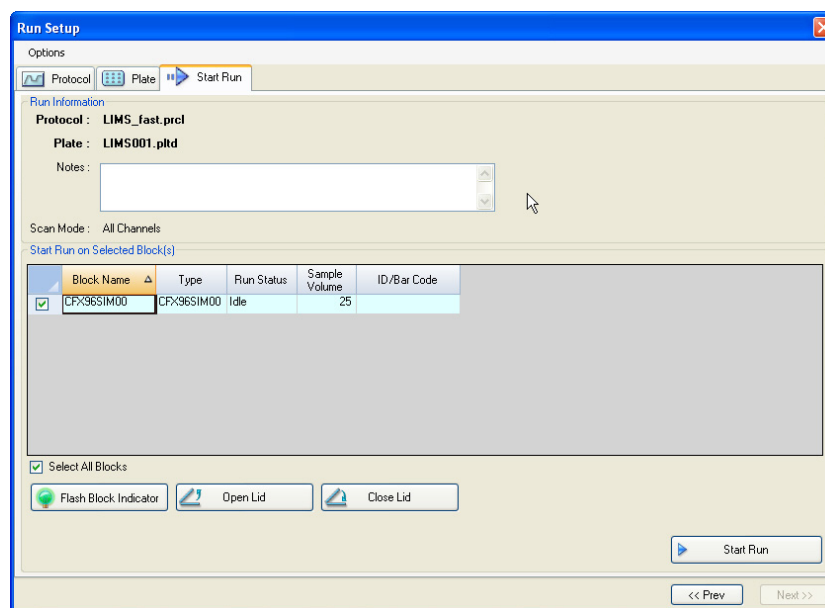

Figure 102. Run Setup window with a LIMS run ready to start.
2. To start the run for a selected LIMS file, select an instrument and click **Start Run** (Figure 102). The contents of the LIMS file and linked protocol file are used to complete the protocol and plate tabs.